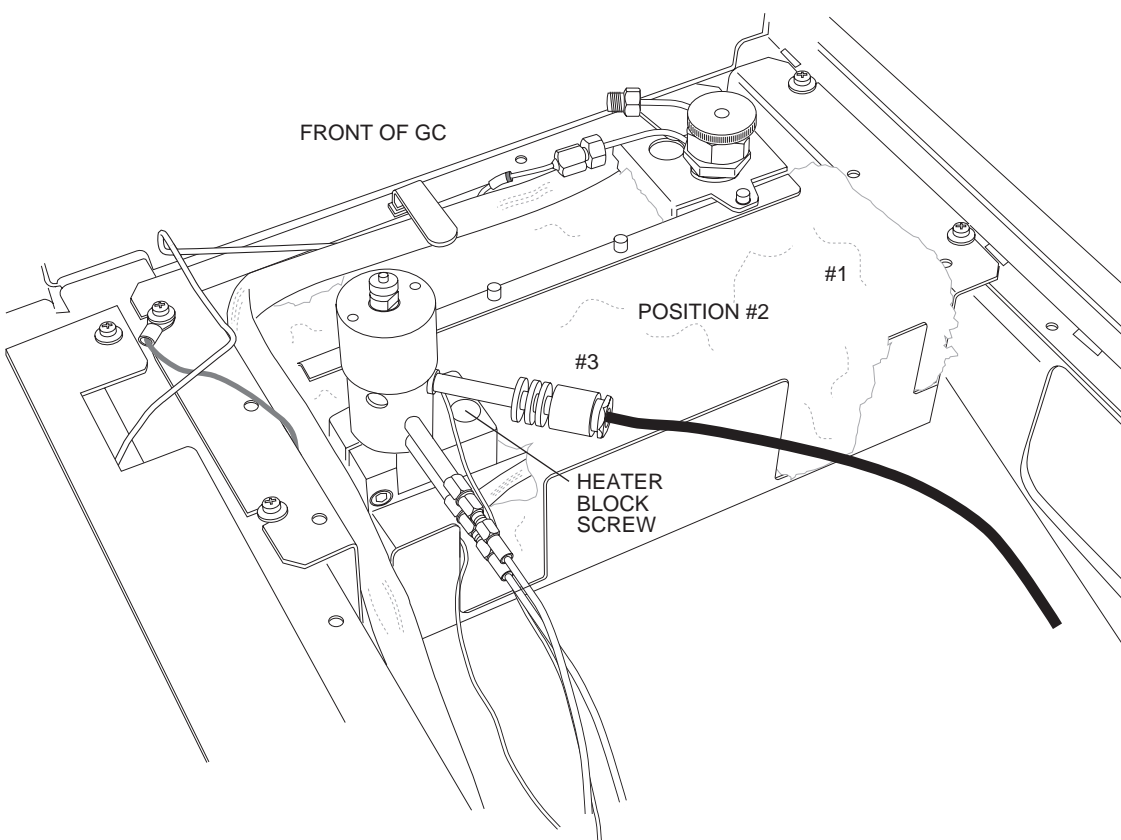

Figure 3: Mounting the detector on the GC
2. Place the detector on the top of the GC as shown in **Figure 3** and secure it with the heater block screw.